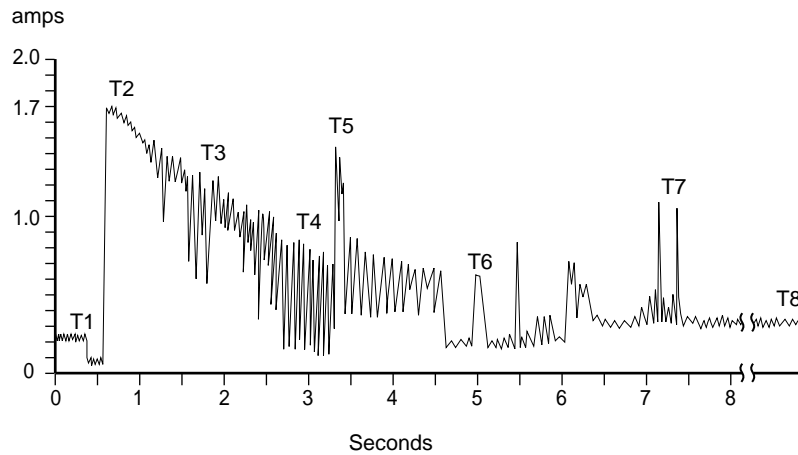

Figure 1. Typical startup current profile
- **Spinup.** The spindle is coming up to operating speed. The power consumed in this mode is equivalent to the average power during the first 10 seconds after the drive begins to spin up. Refer to the startup current chart in Figure 1 on page 9 for a typical representation of power consumption during spinup.